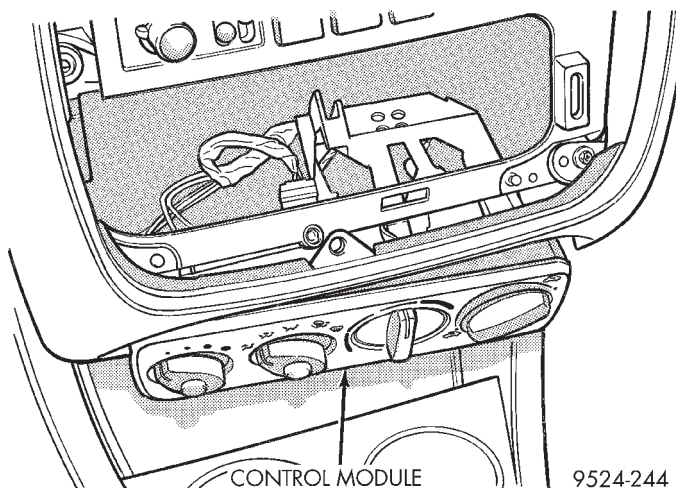

**Fig. 31 Control Module At Bezel Opening**
(4) Pry up the cluster hood bezel a few inches to expose the cubby bin/cigar lighter bezel screws.
(5) Remove the cubby bin/cigar lighter bezel and wiring.
(6) Remove the control module retaining screws.
(7) Drop the A/C control module into the cigar lighter/cubby bin bezel opening (Fig. 31). Then disconnect the wiring on the rear of the control module.